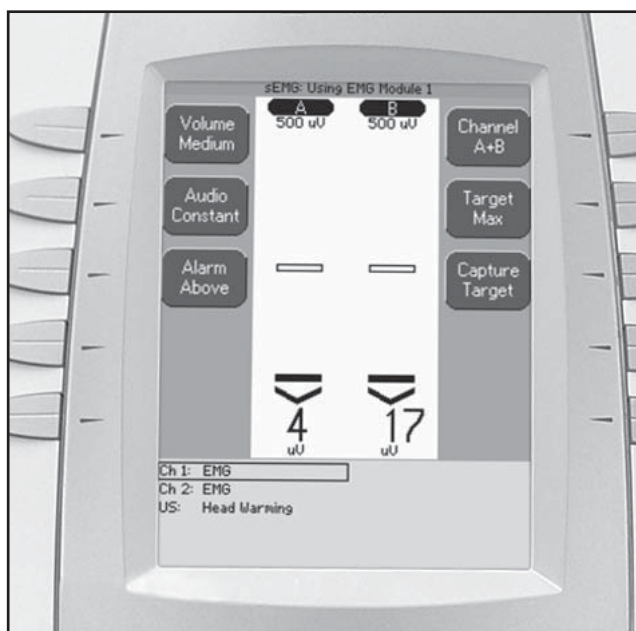

FIGURE 5.33
4. Press the sEMG Button on Home Screen. Channel 1 should read 7 or less. See **Figure 5.33**.